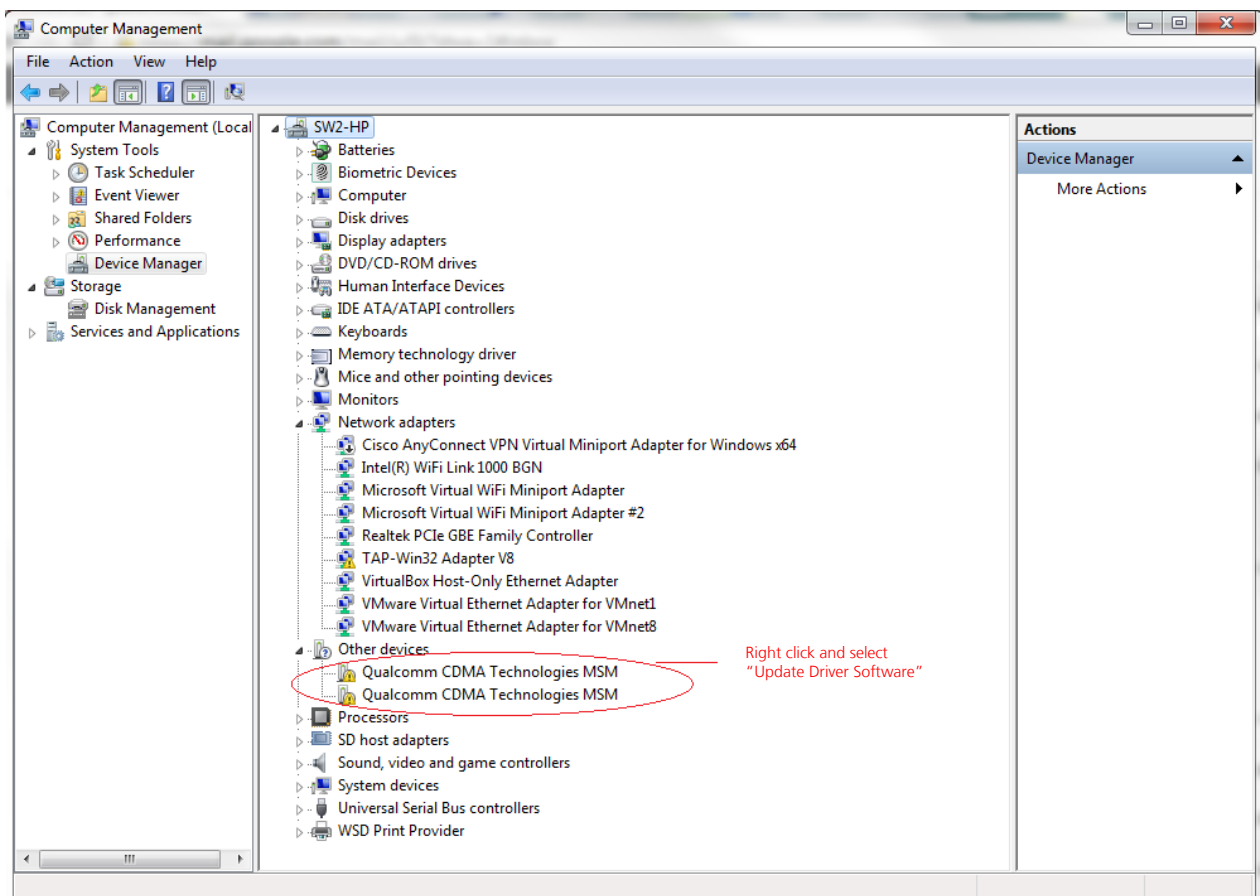

Figure 4: Installing drivers
3. Add the following to the file (see Figure 4):